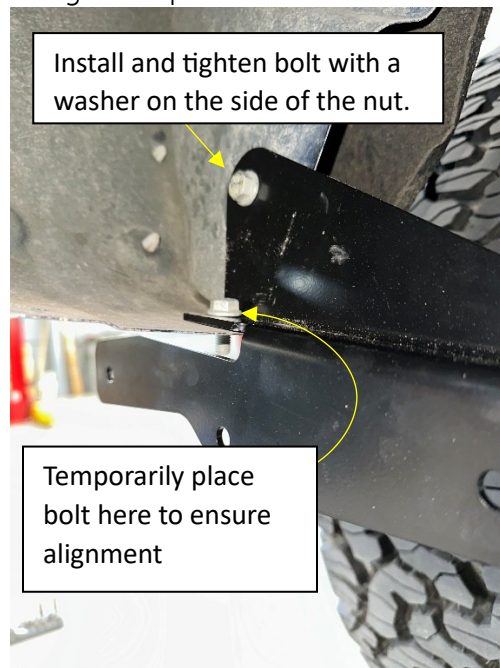

Figure 2
2. Install the top bolt of your AEV Splash Guard Bracket (Figure 2).